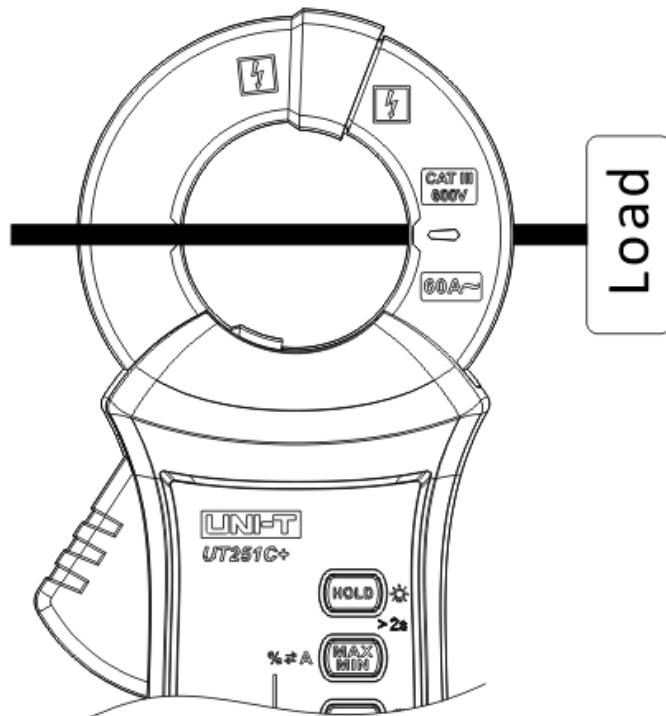

Figure 2-4 Measuring AC leakage current for one of the loop wires
5) Clamp one of the loop wires and measure its AC current, as shown in Figure 2-4.
## 2. Harmonics Measurement (Figure 2-4)